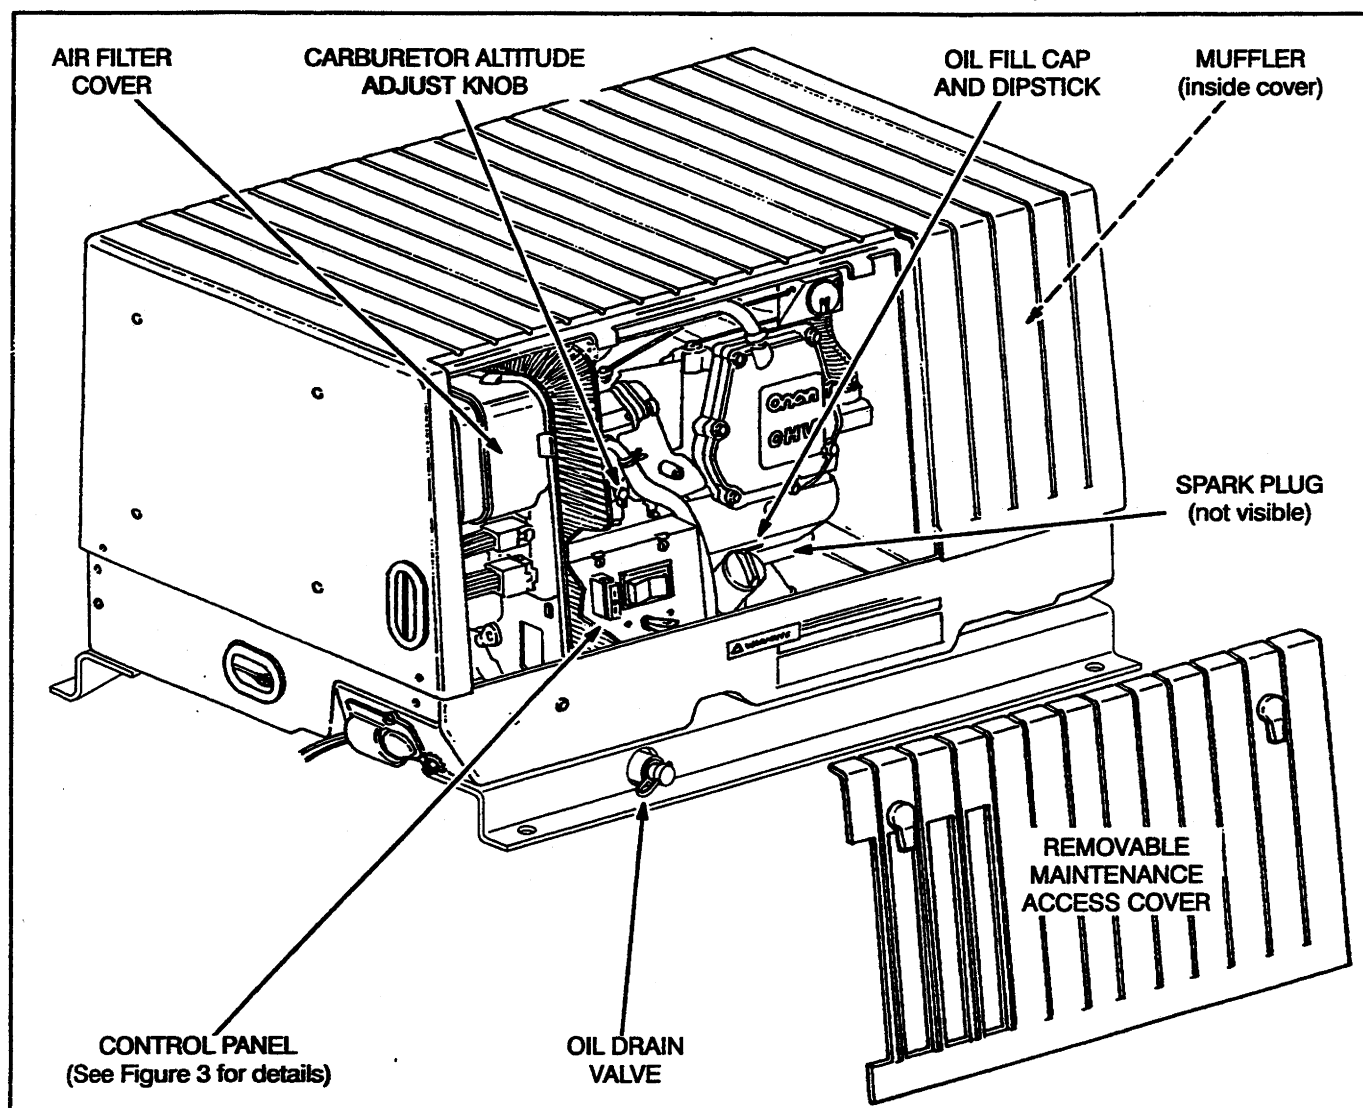
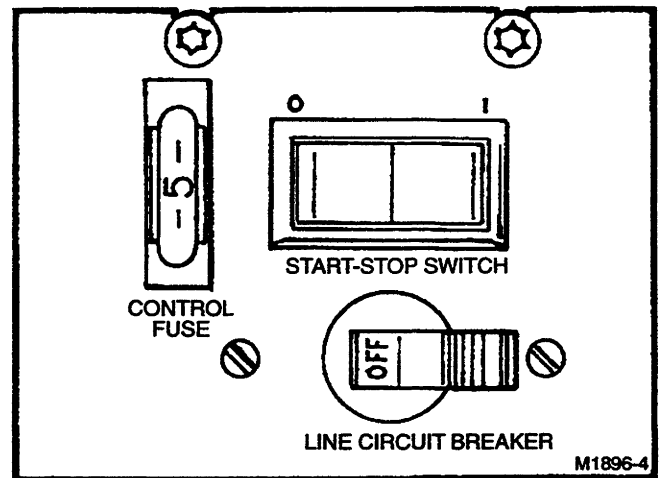

FIGURE 2. COMPONENT LOCATIONS
FIGURE 3. GENSET CONTROL PANEL
The control panel and the components requiring attention during periodic maintenance (see *Periodic Maintenance*) are located behind a removable access cover. See Figure 2.
The genset control panel (Figure 3) is located behind the access cover on the genset (Figure 2). It has the following features:
2. Push and hold the genset or remote START switch (Figures 3 and 4) until the genset starts. (The remote START switch inside boat should have a lamp which lights to indicate that the genset has started and is running.)